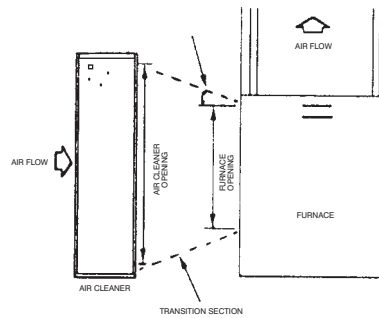
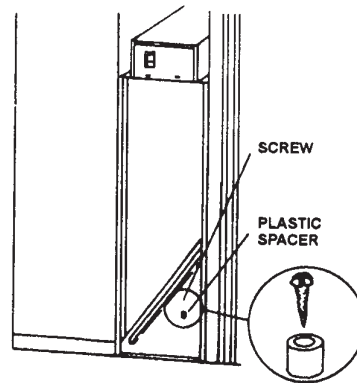

Figure 4
Figure 6
If the air duct does not fit the air cleaner cabinet opening, gradual transitions are recommended to reduce air turbulence through the air cleaner and maximize efficiency. Not more than 20° (about 4" per running foot) of expansion should be used on each side of the transition fitting (Figure 4).
1. Remove the prefilter(s) and cells from the cabinet. A plastic positioning spacer is located inside the bottom of the cabinet. This spacer is secured to the cabinet using a #6-32 round head Phillips drive thread cutting screw to assure installation of the cells in the proper position with respect to air flow (Figure 6).
7. Locate the cabinet in the cold air return duct so that all of the return air flows through the unit (Figure 6). If the furnace and air cleaner openings are different, use a transition (Figure 4).